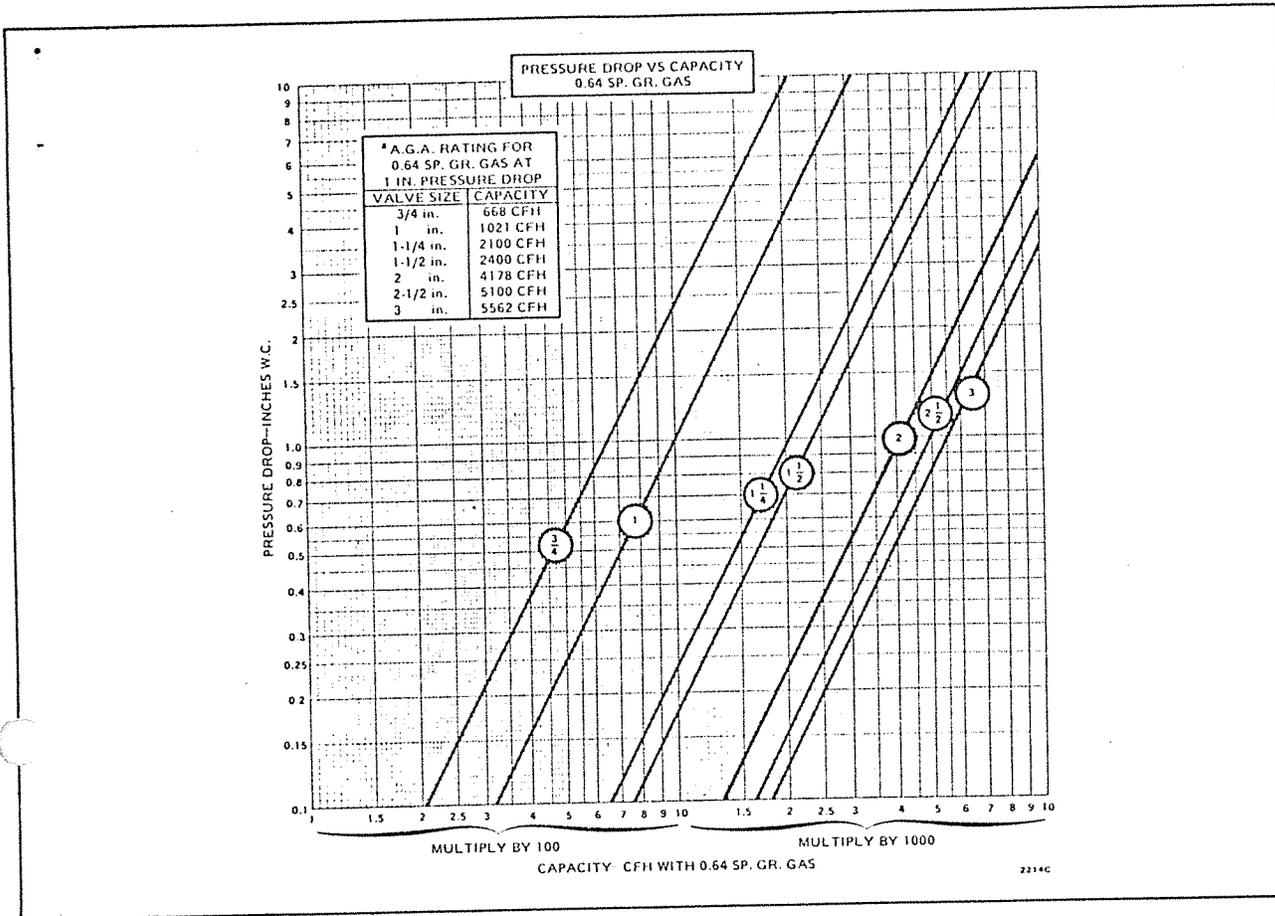

FIG. 1—PRESSURE DROP VS. CAPACITY (CFH) CHART FOR SIZING GAS VALVES.
5. Use the corrected capacity in cfh when plotting the gas valve size in Fig. 1.
7. Plot the capacity (cfh) vs. pressure drop (psi) in Fig. 1 to find the proper valve size. NOTE: Use the corrected cfh for gas other than 0.64 sp gr.